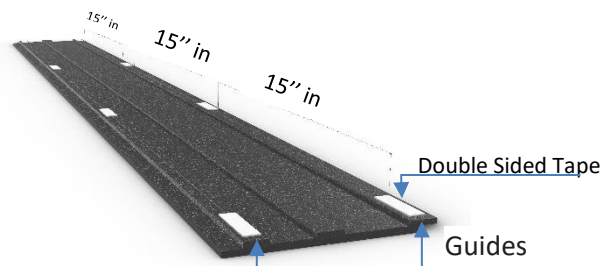

Figure 26
- See item 3 Technical drawing table
- Apply pieces of Double Sided Tape between 1' to 2' inch long, spaced no more than 15" inches apart. Start applying the Double Sided Tape in the areas where the bar guides are not located and one more at each end. See illustration figure 26.